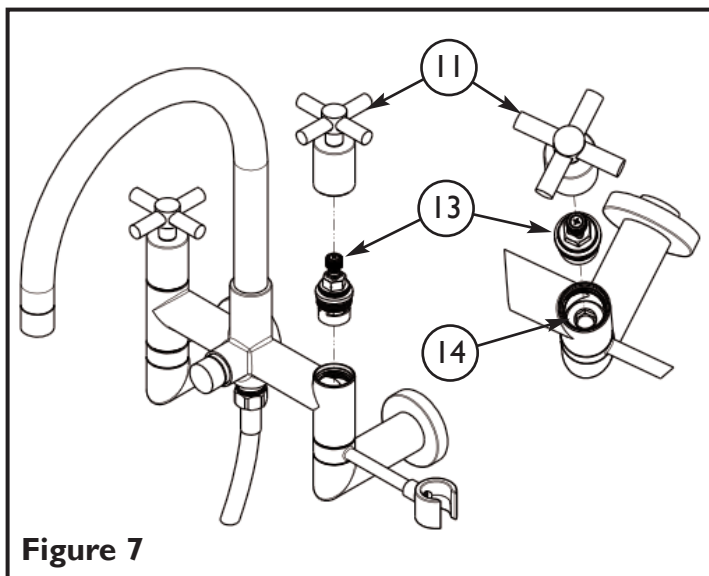

Figure 7
4. Using the 7/16 hex key loosen the visible NUT (14) just enough to move the HOLDER (12). Do not fully back out the nut. See **Figure 7**.